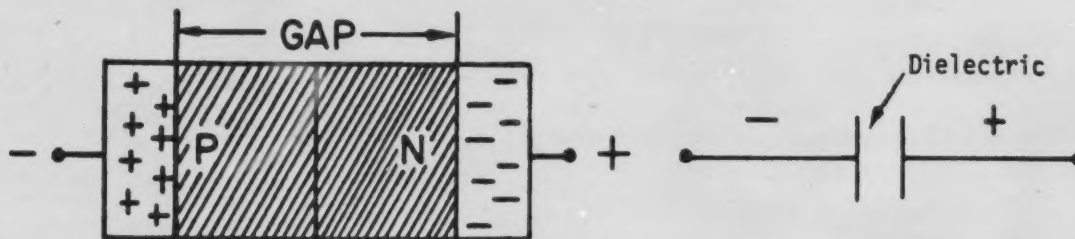

Figure 20
- ②② A reverse bias voltage applied to a varactor causes an insulation gap to form between the charged particles in the P and N materials. The gap has a reduced number of current carrying particles. Therefore, the gap can be compared to the dielectric of a capacitor as shown in Figure 20.